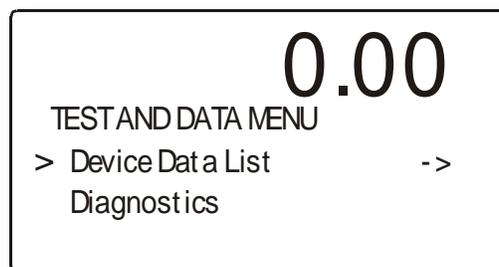

FIG. 3-17 TEST AND DATA MENU/SELECTING DEVICE DATA LIST
- Step 1. From the Operating Display press the Test/9 button. The Test and Data Menu appears with the cursor in front of Device Data List. (See Fig. 3-17)